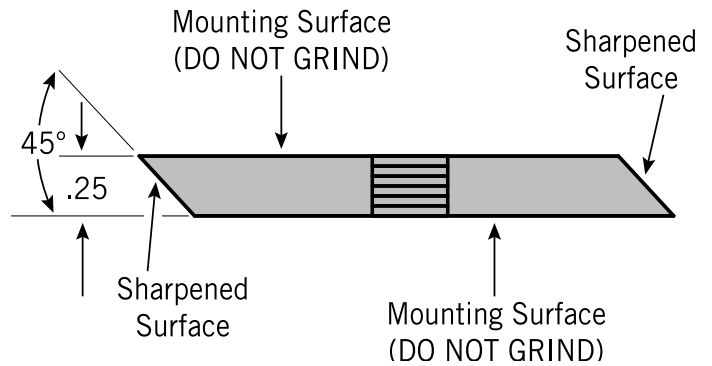
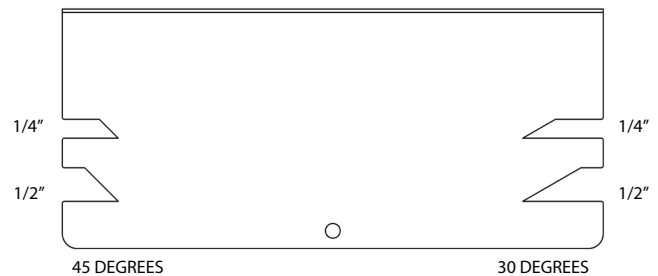

Figure 5.7.1
Figure 5.7.2
2. Regrind the angled edge of the chopping blades to 45 degrees (Figure 5.7.1). Use the blade angles on the anvil spacing gauge when sharpening the blades to achieve the proper angle (see Figure 5.7.2).